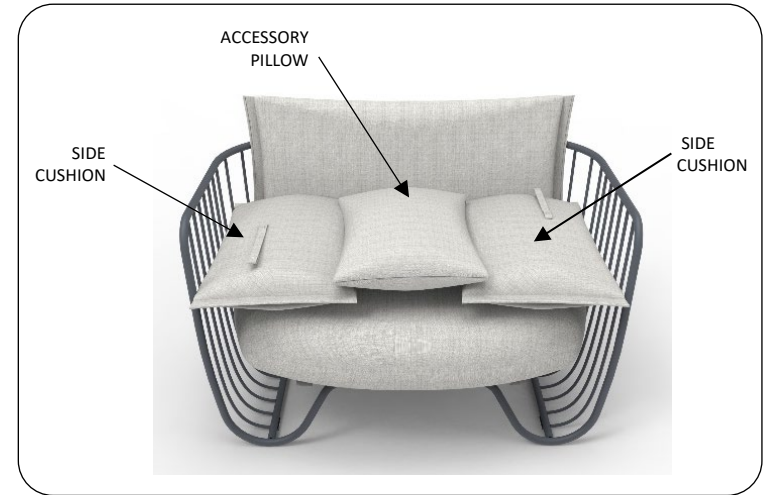

FIG 6 – CUSHION PLACEMENT FOR WEATHER COVER INSTALL
3. To promote water drainage off of weather cover, side cushions on club chair and sofa with arms should be unsnapped and laid flat, see Fig. 6. Club chair accessory pillow should be placed in between side cushions, see Fig. 6.